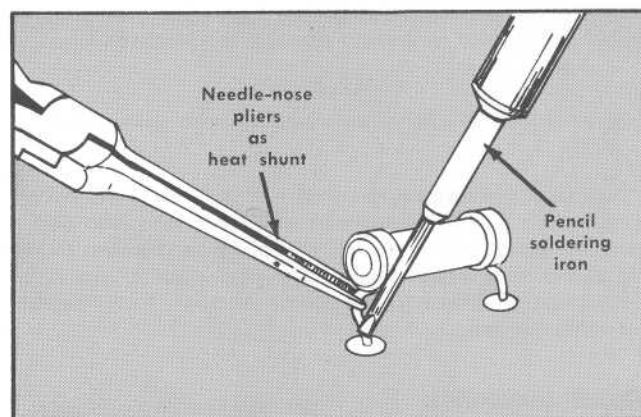

Fig. 4-1. Using needle-nose pliers as a heat sink.
4. Apply the iron and a small amount of solder to the connection to make a firm solder joint. To protect heat-sensitive components, hold the lead between the component body and the solder joint with a pair of long-nose pliers or other heat sink, see Fig. 4-1.